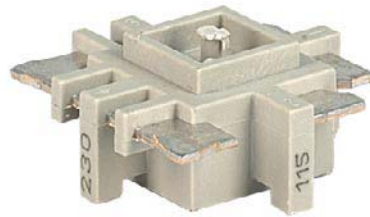

Figure 4-4. Voltage Selector Unit
4. Remove the voltage selector unit (see Figure 4-4 on page 4-5) from the power input connector using long nose pliers or a screwdriver.